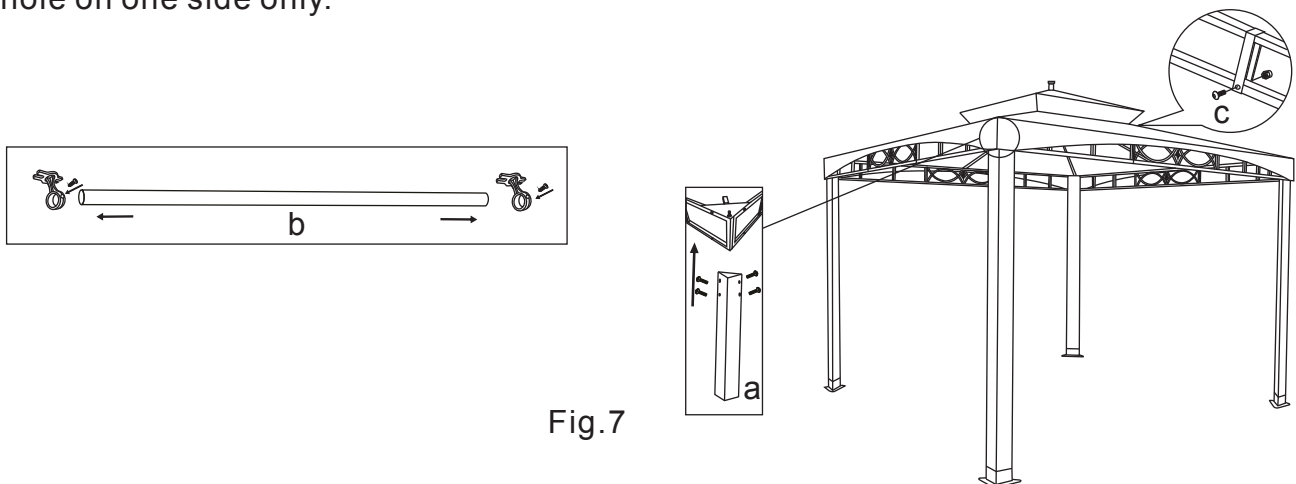

Fig.7
- Place the small assembled roof above the large assembled roof. Using one M6x25mm screw #22 and the M6 nut #20 attach the top roof rib #7 to the corner roof rib #5. See fig.7. **REMINDER: THIS STEP IS DONE BEFORE LIFTING ONTO LEG FRAMES.**
- Carefully insert each of the leg frames #1 and 27 into the corner of the beam connectors #10 and 28. Use four M6x30mm screws #23 to attach the leg frames #1 and 27 to the combined cross beam as in fig.7.a.
- Insert track bar #11 into track hangers #17 and tighten combined parts by using one M4x12mm screw #19. See fig.7.b.